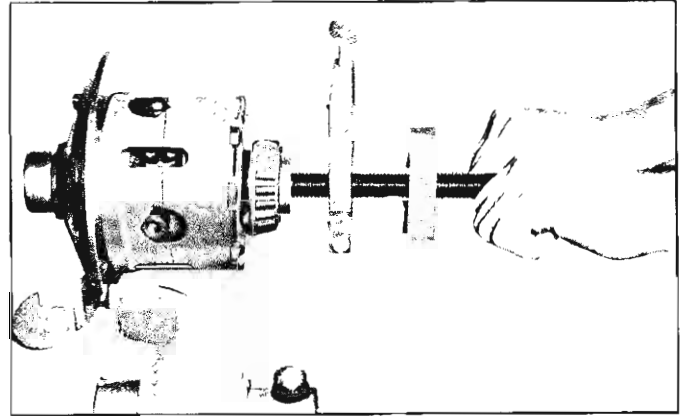

Fig. 36—Removing Differential Side Bearings
4. Remove the side bearings using Tool J-7112 (fig. 36). Keep bearing cups with the bearings if they are reusable; replace bearings if worn or damaged.